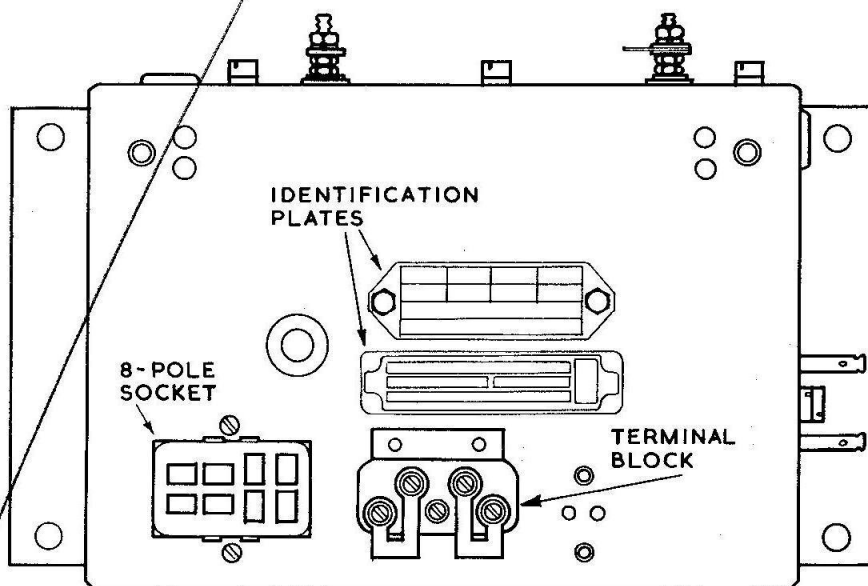

Fig. 1. F6001 protection unit (plan view)
2. The unit comprises a rectangular chassis in which are fitted relays N.106996/1 and N.105744, resistance unit ZA.6204, 10-pole socket N.122642 and terminal block N.109858, mounted as shown in fig. 1 and 2. Flanges on the ends of the unit facilitate mounting.